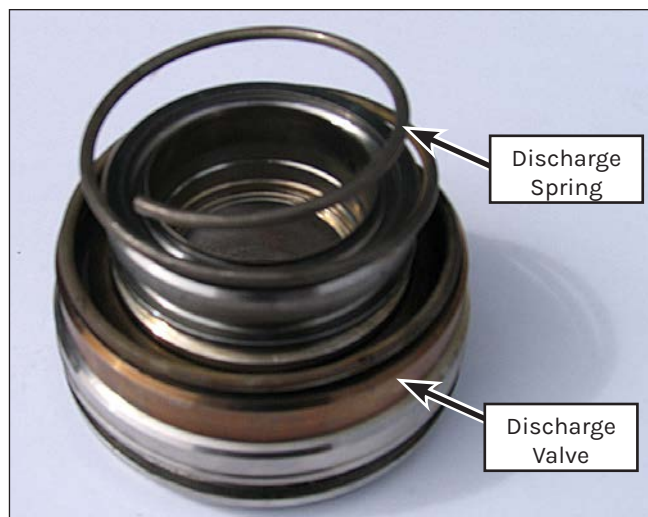

Figure 116: Discharge Installation.
1. Install the discharge valve onto the valve body. The shiny mating surface faces the holes on the valve body. Place the discharge spring into position on the valve (Figure 116).